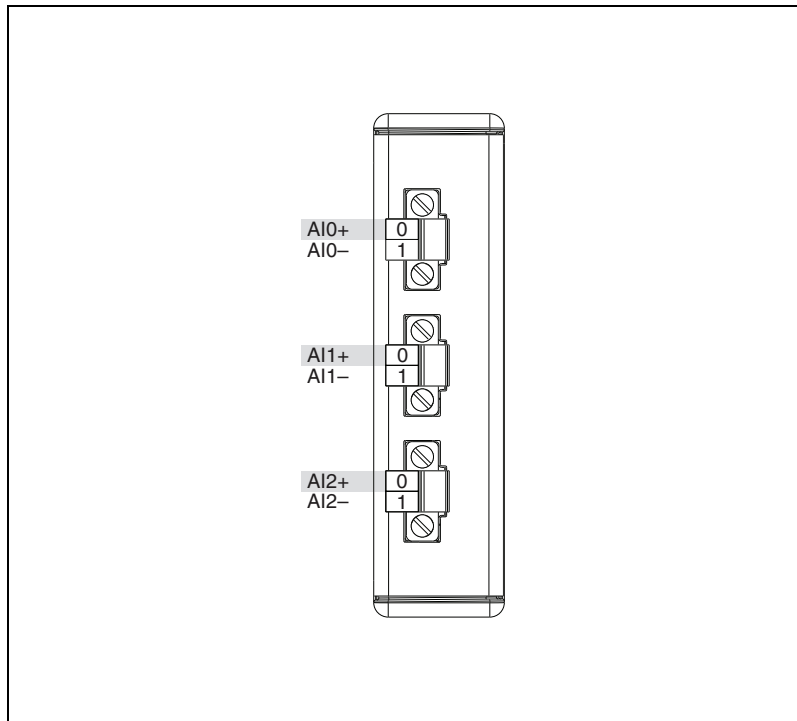

Figure 1. NI 9225 Terminal Assignments
1. Connect the calibrator to the channel you want to verify. Connect the positive output of the calibrator to AI+ and the negative output of the calibrator to AI-. If the calibrator has a guard connection that is not internally connected, connect that terminal to AI-. Refer to Figure 1 for the terminal assignments of the NI 9225.